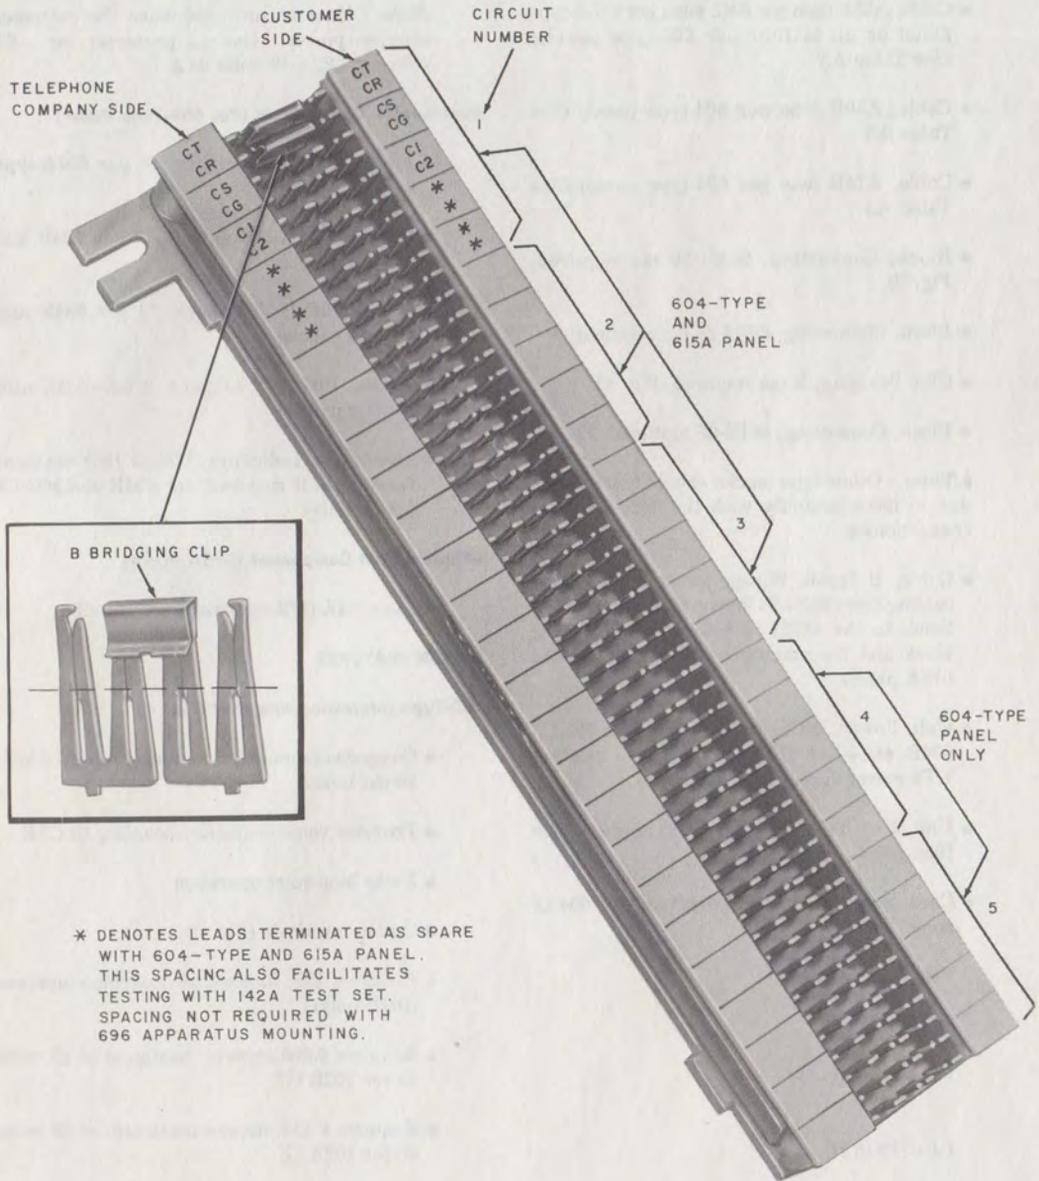

Fig. 2—66M1-50 Interface Connecting Block
- Block, Connecting, 66M1-50 (as required, Fig. 2)
- Clip, Bridging, B (as required, Fig. 2)
3.04 Terminate the raw end of connector cable 1 on a 66B4-25 connecting block for the CO lines (Table B). Terminate the raw end of connector cables 2, 3, and 4 on the 66M1-50 interface connecting block following the wiring plan shown in Tables C, D, and E. Stencil lead designations on the 66M1-50 interface connecting block as shown in Fig. 2).